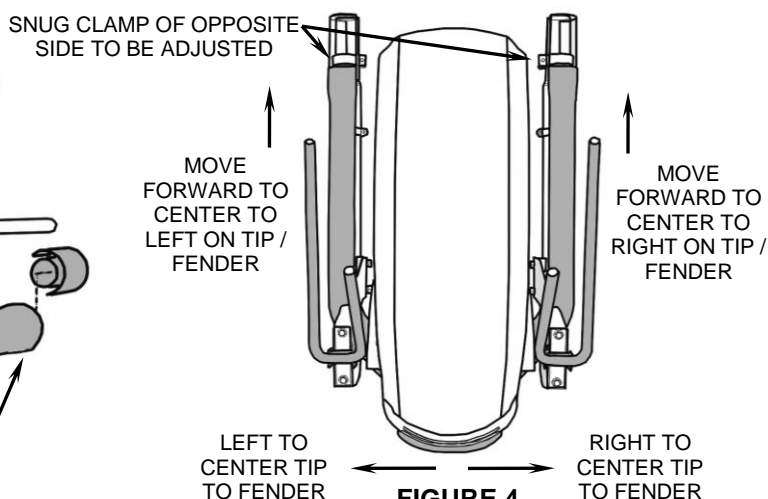

FIGURE 4
8. To properly align your Center Pro exhaust start by making sure rear tip is centered with rear fender from behind. This can be done by snugging up muffler inlet clamps to where you can slide the muffler assembly fore and aft on each side to center tip, see Figure 4. The tip should stick out past the rear of the fender $\frac{3}{8}$ " - $\frac{1}{2}$ ", once this is achieved, tighten inlet clamps. Next tighten up (4) $\frac{5}{16}$ X $\frac{5}{8}$ " bolts that attach muffler mount bracket to motorcycle.